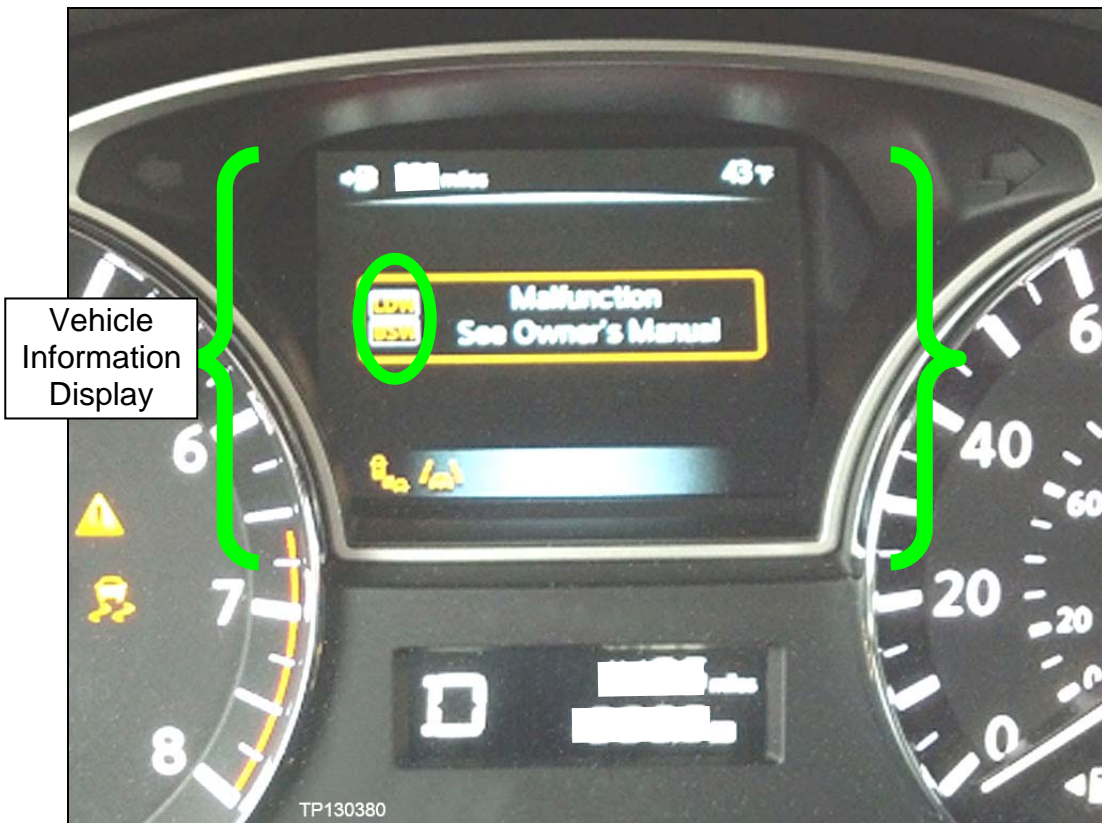

Figure 1
- Message “Malfunction – See Owner’s Manual” with LDW / BSW icons showing in the Vehicle Information Display (including but not limited to what shows in Figure 1)